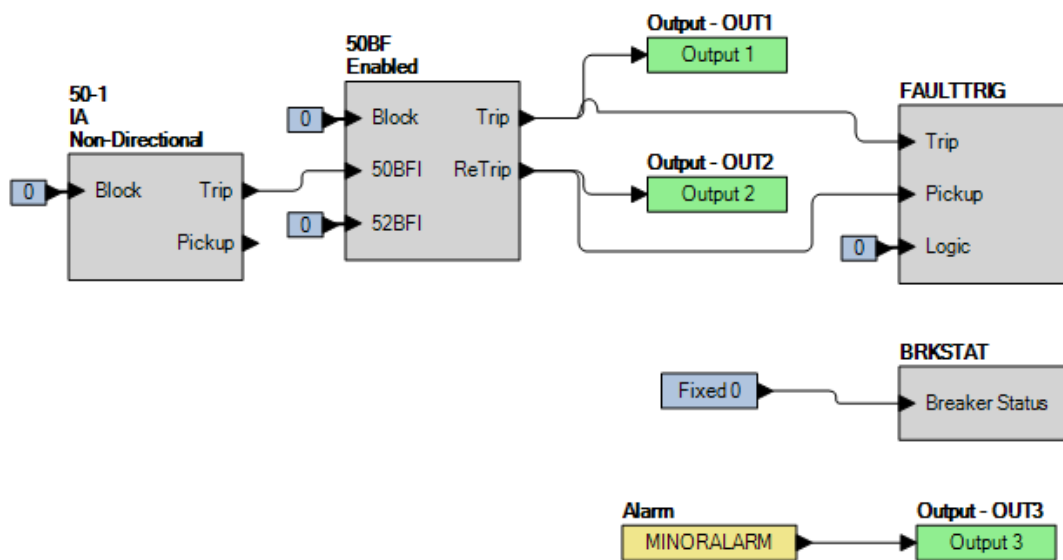

Figure 64-2. BESTlogicPi^{us} Settings (BF150 Current Supervised BE1-11i Trip Initiate)
Step 8: Use BESTCOMSPi^{us} to configure the BESTlogicPi^{us} programmable logic shown in Figure 64-2.